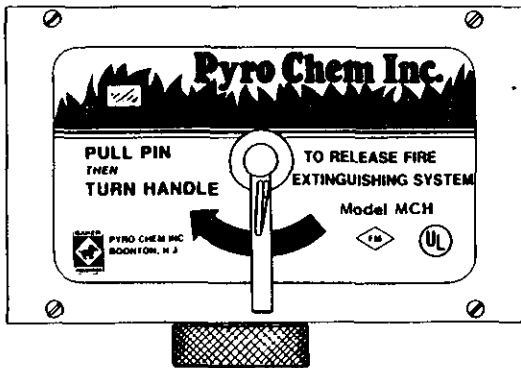

Figure 1-3. Mechanical Control Head
1. Model MCH-System Control Head — The Model MCH-system control head is a fully mechanical control head which can be connected to PCL-165/275/550 Pyro Chem cylinder valves. This control head will support a fusible link detection system, a remote manual mechanical pull station, and a mechanical gas shutoff valve. It can be field fitted with a miniature electrical switch. (See Figure 4-6). The system control head is provided with a local manual control handle which is a double action device. Operation of the local manual control requires removing the pull pin and rotating the handle clockwise. (See Figure 1-3).